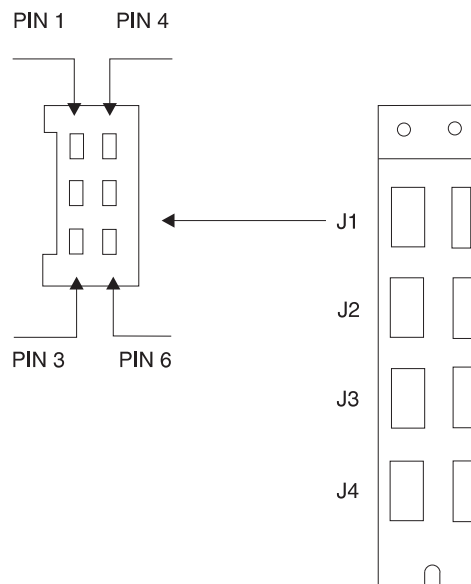

Figure 2-4. RPO Location 07R-A1
- Check for -24v between frame ground and the back of the host connector that initiated the command at RPO 01S Jx pins 1 and 5. See Figure 2-4.